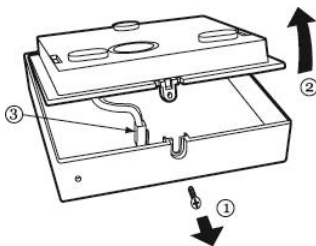

Fig. 1: Opening the housing
4. Attach the front part of the housing to the rear wall and fasten it with the screw (carry out the steps in figure 1 in reverse order).